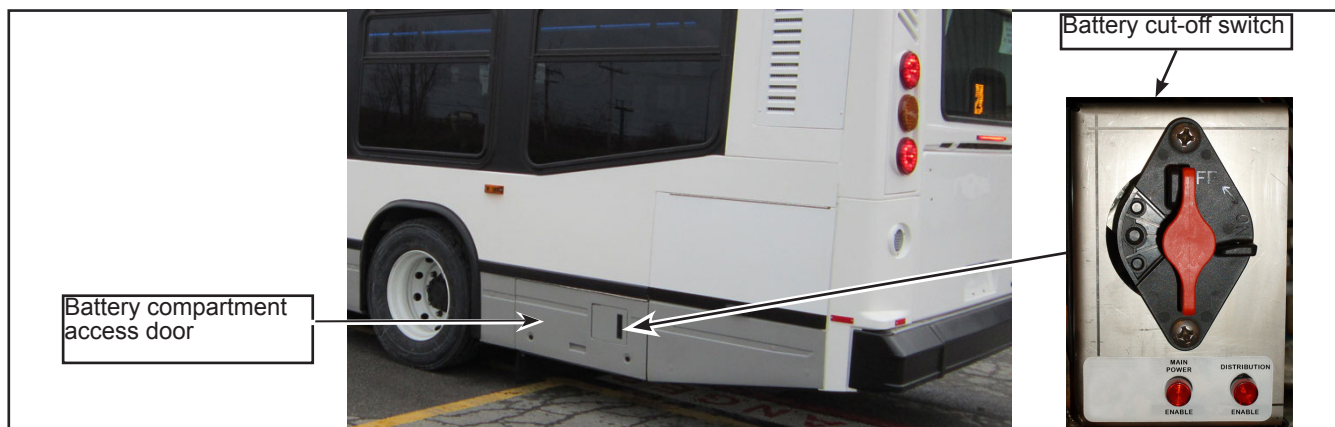

Figure 2 - Deactivate the Vehicle's Power Supply
1.2. Open the battery compartment access door, and ensure that the vehicle's power supply has been deactivated by turning off the battery cut-off switch (see Figure 2).